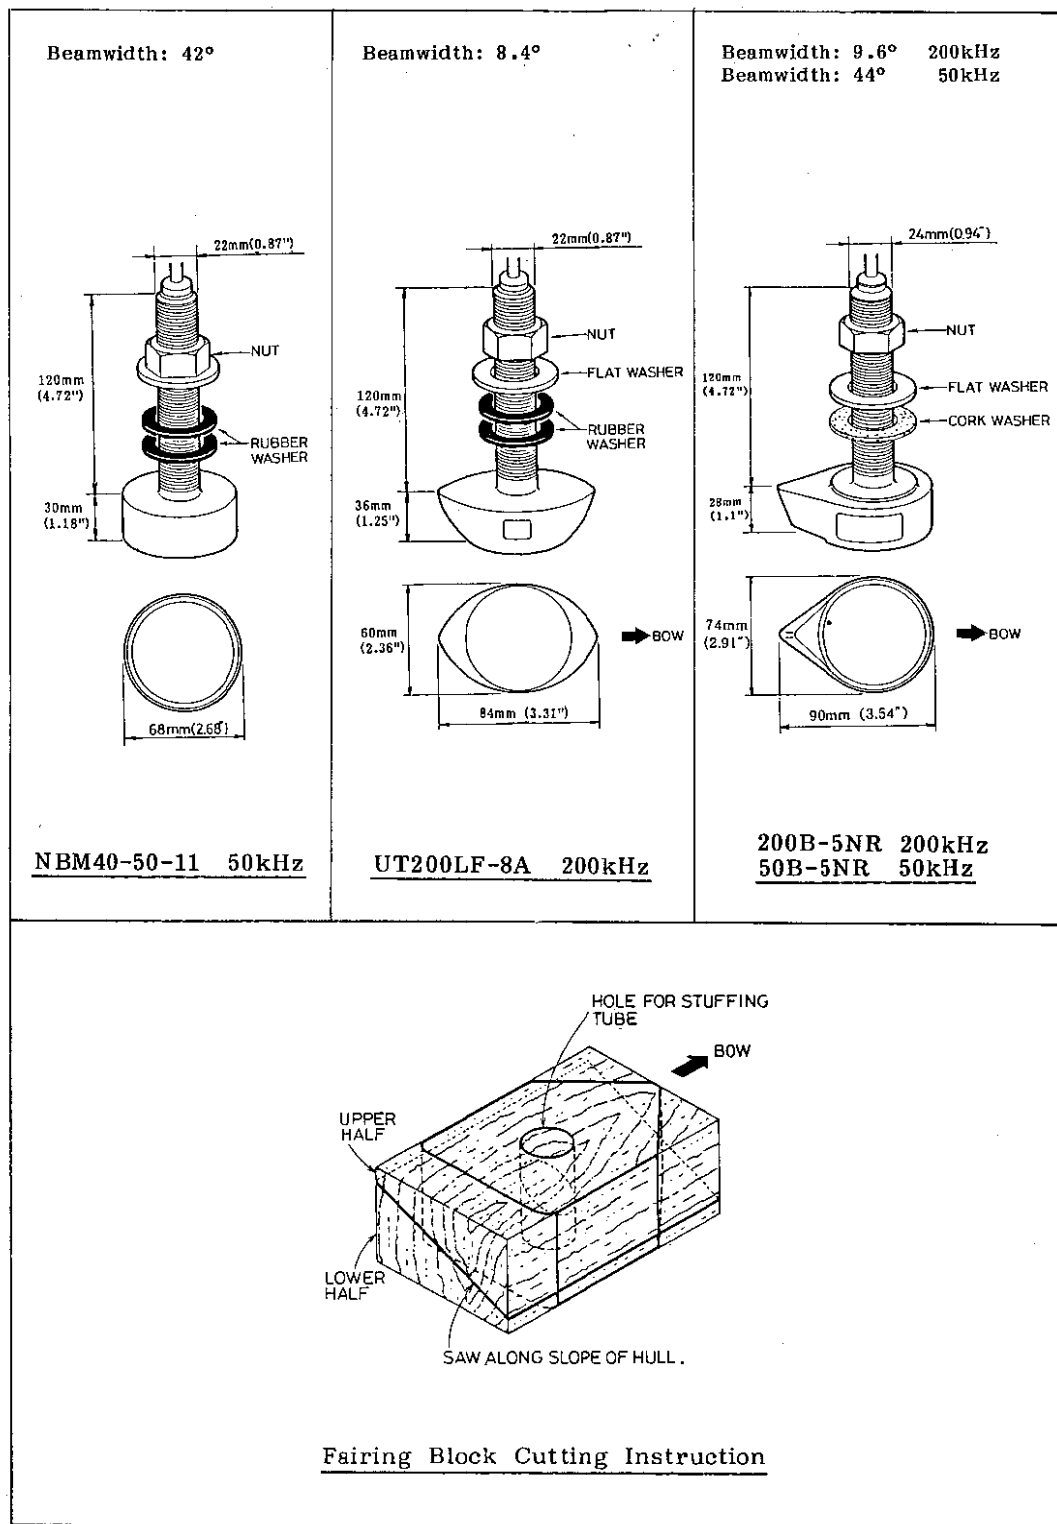

Fig.7 Inside-Hull and Through-Hull Transducer Outline Drawings/Fairing Block Cutting Instruction.
The inside-hull mounting is accomplished as follows. Note that only transducers UT-200LF-8A and NMB40-50-11 allow this type of mounting. See Fig.7 for outline drawings.
2. If the hull is not level within 15 degrees in any direction, fairing blocks made out of teak should be used between the transducer and hull, both inside and outside, to keep the transducer face parallel with the water line. Fabricate the fairing block as shown in Fig.7 and make the entire surface as smooth as possible to provide an undisturbed flow of water around the transducer. The fairing block should be smaller than the transducer itself to provide a channel to divert turbulent water around the sides of the transducer rather than over its face.